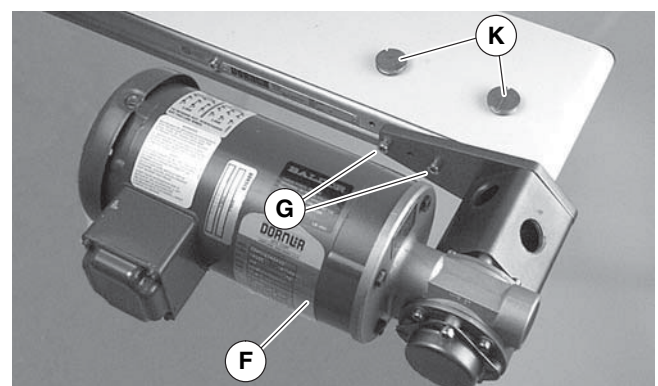

Figure 15
- Remove inspection plugs (Figure 15, item K).
- Slide coupling over drive output shaft and install drive assembly (Figure 15, item F) with screws (G). Tighten to 80 in-lb (9 N-m).
- Replace inspection plugs. (Figure 15, item K).
1. Remove inspection plugs (Figure 15, item K).
3. Remove two (2) screws (Figure 15, item G). Remove drive assembly (F).